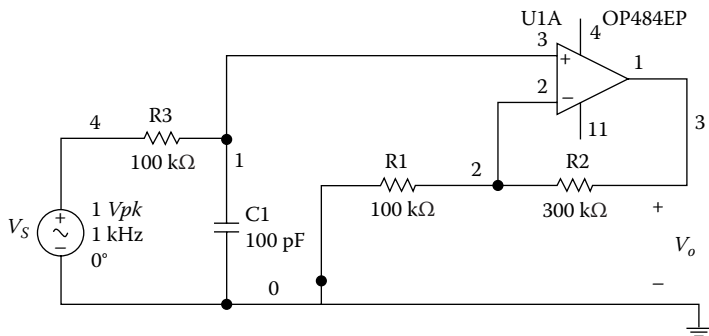

FIGURE P5.7
Problem 5.7 Build the circuit shown in Figure P5.7. Use the Network Analyzer of the Analog Discovery board to: (1) Obtain the Bode plot of the filter. (2) Measure the cut-off frequency. (3) Obtain the low-frequency gain of the circuit. Compare the measured values, obtained in parts (2) and (3), with those calculated by using Equations 5.18 and 5.19.